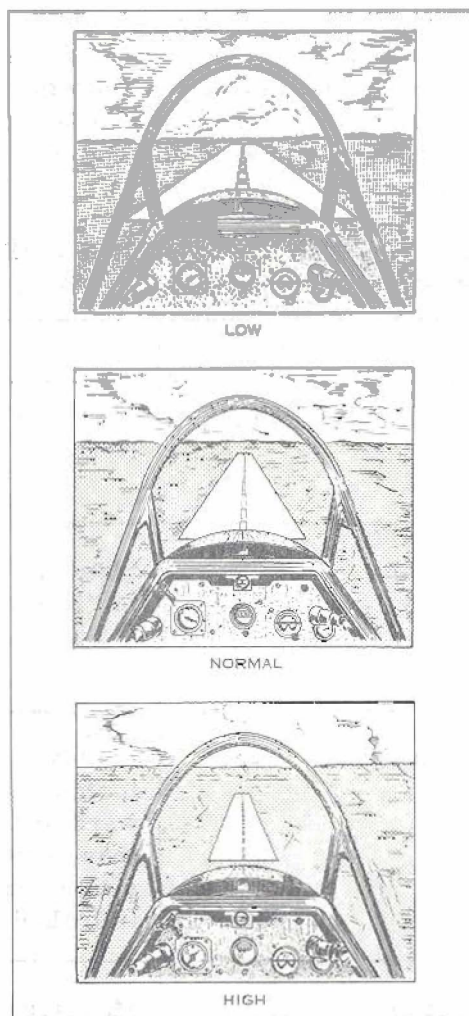

Figure 4: The Final Approach
(2) Owing to drift or poor judgement, you may find that the aircraft is not going to be aligned with the desired track. If you cannot regain track before the altimeter registers 200 feet AGL - OVERSHOOT. Excessive angles of bank must not be used, since steep turns, near the ground, are dangerous when the airspeed is low. If the aircraft were to stall, there would be insufficient room to recover safely.
(3) When the aircraft comes out of the turn in line with the runway, the altimeter should be reading approximately 500 feet AGL, and you should start to make corrections for drift. The pitch attitude should be changed to what you think is an 80K approach attitude for the configuration and, once the airspeed has had time to settle, you should glance at the airspeed indicator to check the actual airspeed. If the reading is higher than 80K, your pitch attitude is too low; if the reading is less than 80K, your pitch attitude is too high. Adjust the attitude smoothly and re-trim, making further adjustments as necessary to maintain the correct approach speed.
(4) If you decide to lower more flap, or increase or decrease power, each change must be followed by a corresponding attitude change to keep the approach speed constant. As before, an approximate attitude change is made, and checked later by reference to the airspeed indicator. ALWAYS adjust the attitude in relation to your outside reference points first, then use the flight instruments as a secondary check. ALWAYS re-trim after each adjustment: the only time within the traffic pattern that an aircraft is not trimmed is during the round-out, the touch-down and the after-landing roll.
(5) All of the adjustments during the final approach, both vertical and horizontal, must be completed at a sufficient height above the ground to allow time for you to plan the round-out. Probably your instructor will insist that you have all the necessary adjustments made by 200 feet AGL. Figure 4 opposite, has been prepared to illustrate a low, normal and high approach from your point of view - i. e. from the front cockpit.